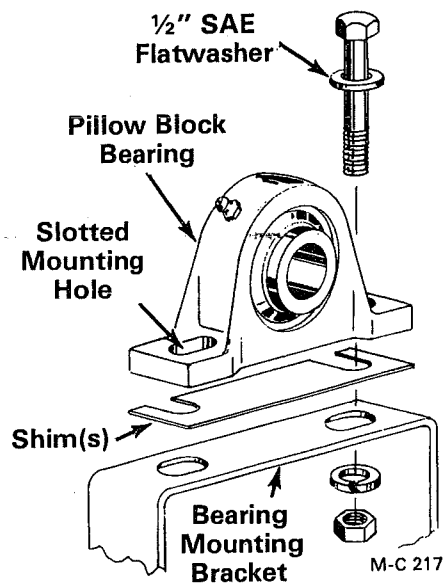

Figure 42
hexnuts securing the output shaft bearing. Lift up on the output shaft and remove the shim(s) from under the output shaft bearing, see Figure 42.
9. Lift up on the output shaft and place the shim(s) on the output shaft bearing mounting bracket, see Figure 42. Install the capscrews, SAE flatwashers, lockwashers and hex-nuts.